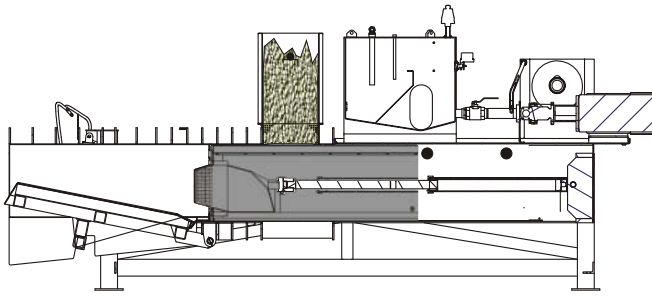

Figure 25 - Product Reaches Level Detector
2. **MATERIAL REACHES LEVEL DETECTOR** The level detector (see Level Detector Adjustments page 14) will send a signal to the DVC program when PROX1 has been activated by product being sensed for more then 1 second (see Figure 25) and the plunger will retract according to pot #1 delay setting.